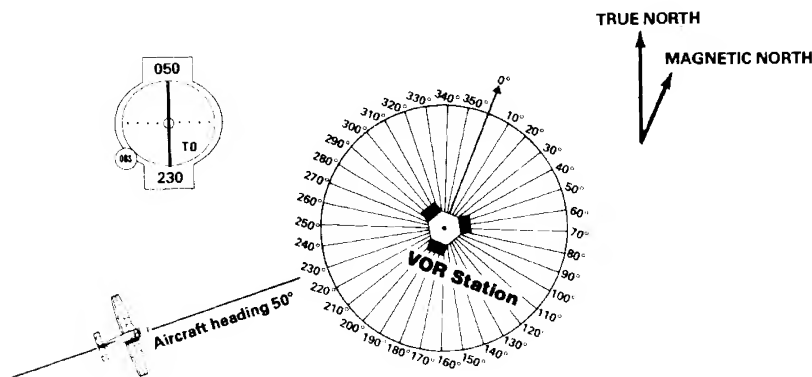

Figure 12. Flying to a VOR Station
1. Select a VOR station on the map and tune the NAV1 receiver to the station. Refer to Fig. 12.